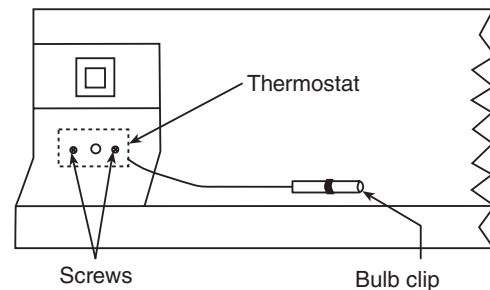

Figure 1
2. Mount thermostat to junction box cover utilizing 2 screws (provided). Arrange thermostat so bulb is towards bottom of box (See Figure 1).